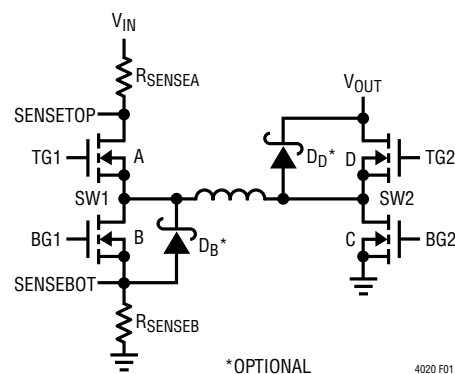

Figure 1. Converter Switch Diagram
As shown in Figure 1, when V_{IN} is higher than V_{OUT} during step-down (buck) operation, switches A (driven by pin TG1) and B (driven by pin BG1) perform the PWM required for accommodating power conversion. Ideally, switch D (driven by pin TG2) would conduct continuously and switch C (driven by pin BG2) would stay off, making PWM switching action much like that in a synchronous buck topology. Switch D uses a bootstrapped driver, however, so switch C conducts for a minimum on time of 150nS each cycle to refresh the driver and switch D is disabled to accommodate this refresh time. A 75ns non-overlap period, separates the conduction of the two switches, preventing shoot-through currents.
Figure 1 shows a simplified diagram of the four power switches and their connections to the IC, inductor, V_{IN} , V_{OUT} , ground, and current sense elements.
The LTC4020 performs inductor current sensing via two resistors connected in series with the V_{IN} side switches (see Figure 1). The high side sense resistor (R_{SENSEA}) is connected between V_{IN} and the drain of the top side switch FET (A). Both nodes on the sense resistor must be Kelvin connected to the IC via the pins SENSVIN and SENSTOP. Likewise, the low side sense resistor (R_{SENSEB}) is connected between the source of the bottom side switch FET (B) and